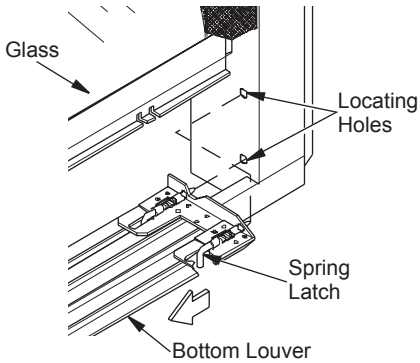

Figure 16 - Removing Louvers
1. To remove louvers, pull both spring latches (located in each end of louver) toward center of appliance at the same time until disengaged from locating holes. Repeat for bottom end spring latches (see Figure 16, page 11).